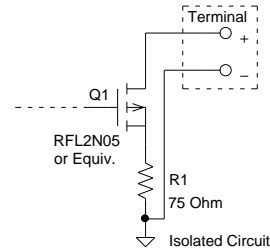

Figure 8: 4-20 mA output circuit
2. Connect up to eight (8) signal wire pairs to the indicated terminals for isolated 4-20mA outputs.
3. CMS 4-20mA transmitters are configured as active (transmitter sources the current) when shipped. To change to the passive mode (receiver to source the current), extract each small 4-20 board, find the JP1 pins, and move the two jumpers from the “Act” pins to the “Pass” pins (two positions to the right of factory settings). Figure 8 shows the current output circuit. Figure 8 also illustrates the active mode and the passive mode configurations.